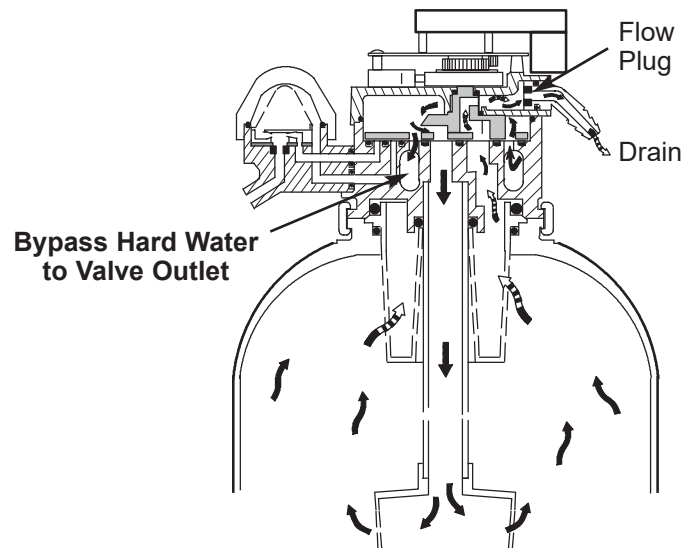

FIG. 17
**BACKWASH (Figure 17):** The motor drives the valve to end brine rinse and reposition in backwash. In backwash, a fast upward flow of water through the resin bed flushes remaining hardness minerals, brine, dirt, sediments, iron deposits, etc., from the bed and to the drain. The fast flow lifts and expands the resin bed for maximum cleaning.